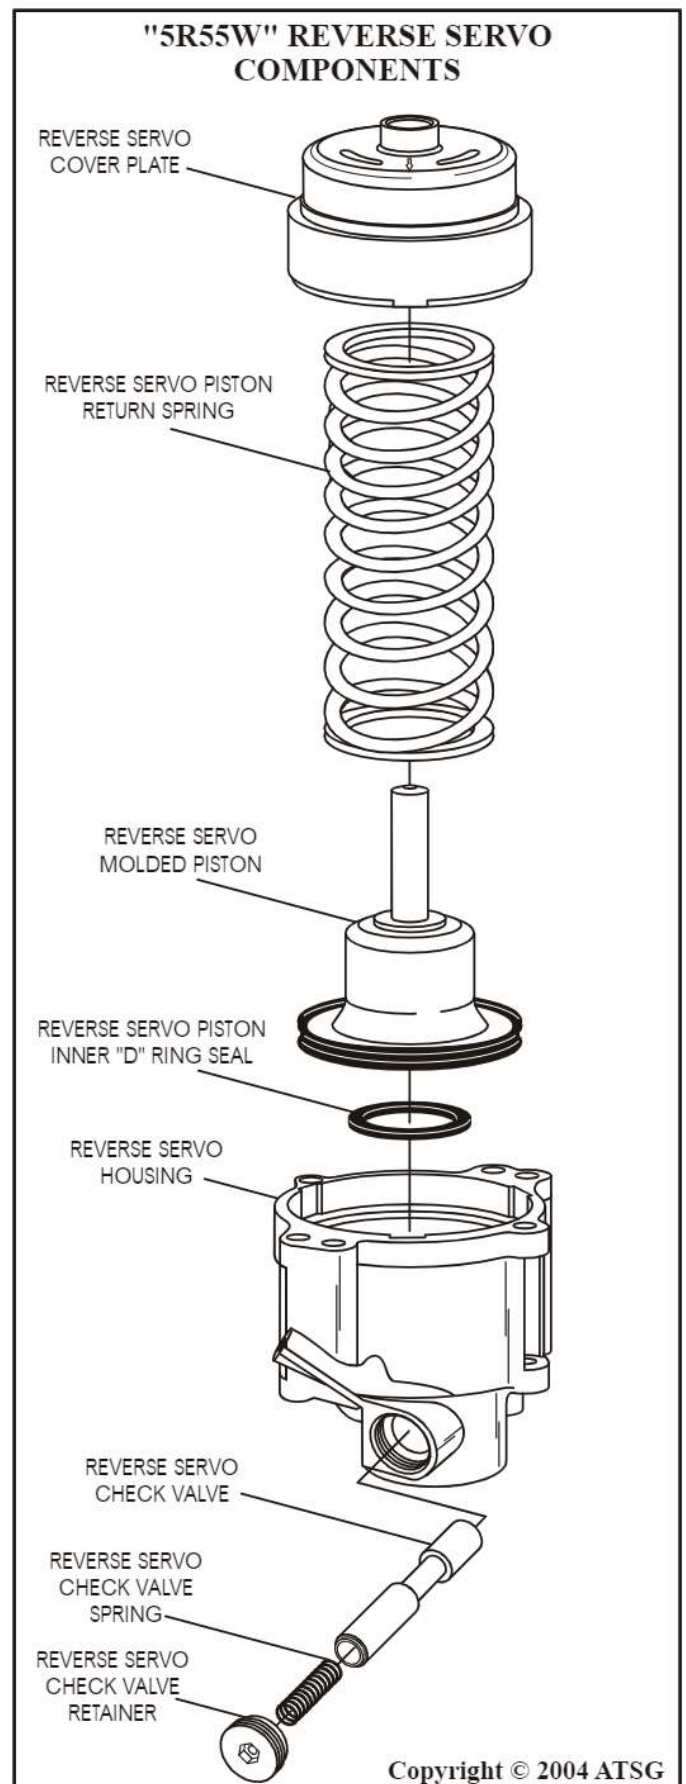

Figure 113
1. Disassemble the reverse servo assembly using Figure 113 as a guide.
Note: *The reverse servo piston has a molded seal, as shown in Figure 113. Replace the piston assembly as necessary.*
5. Remove and discard the reverse servo piston inner "D" ring seal from the servo housing, as shown in Figure 113.
6. Remove and inspect the reverse servo check valve and spring, as shown in Figure 113.